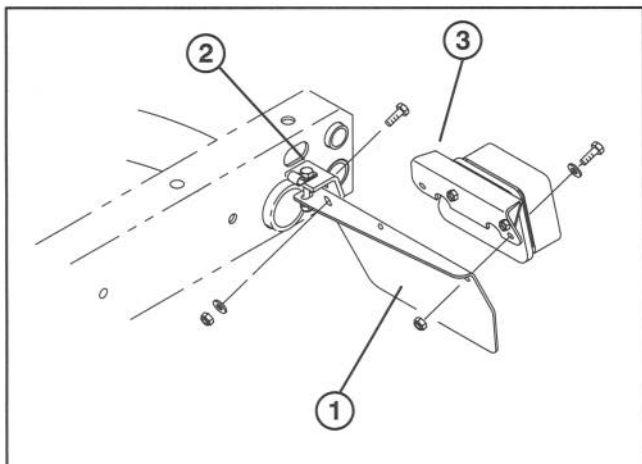

Figure 1
INSTALL REAR FENDERS (Fig. 1 –2)
3. Secure rear of each tail light plate to rear of frame brackets with a 1/4–20 x 3/4" lg. cap screw, .281" I.D. flatwasher and nut, as shown in figure 1.
4. On left side, remove (2) cap screws, washers and nuts securing tail light mounting bracket to tail light plate.